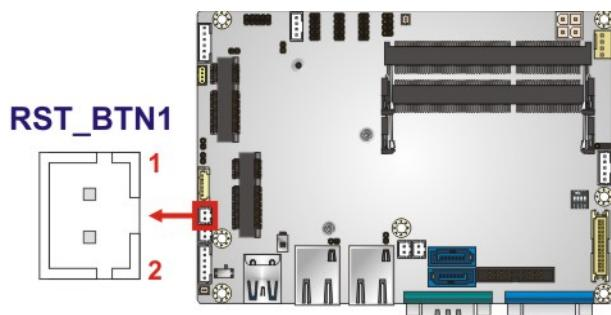

Figure 3-20: Reset Button Connector Location
**CN Location:** See Figure 3-20